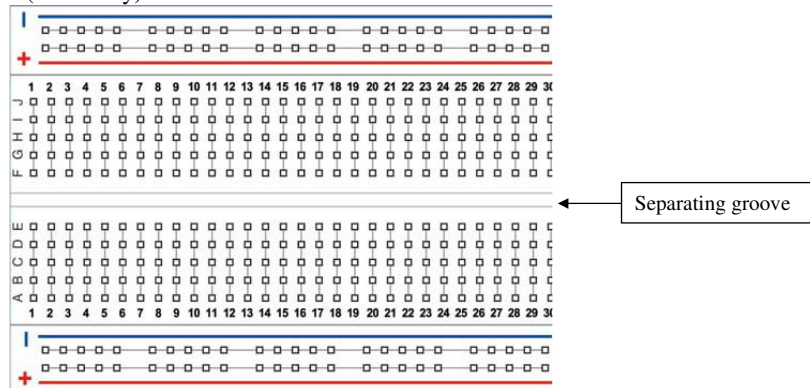

Figure 8: exploring the internal connections of the breadboard (on the drawing, a line that connects holes means a connection on the inside of the breadboard).
- explore the way in which the holes of the breadboard are interconnected inside the board (verify the correspondence with figure 8): insert the 2 wires in any 2 holes and, using continuity beeper mode, verify if there is a connection or not. Try the following:
- holes from a group of 5 from the central area of the breadboard, on one side of the notch that splits the breadboard in two, for example A5 and C5 on figure 8 – buzzer must sound;